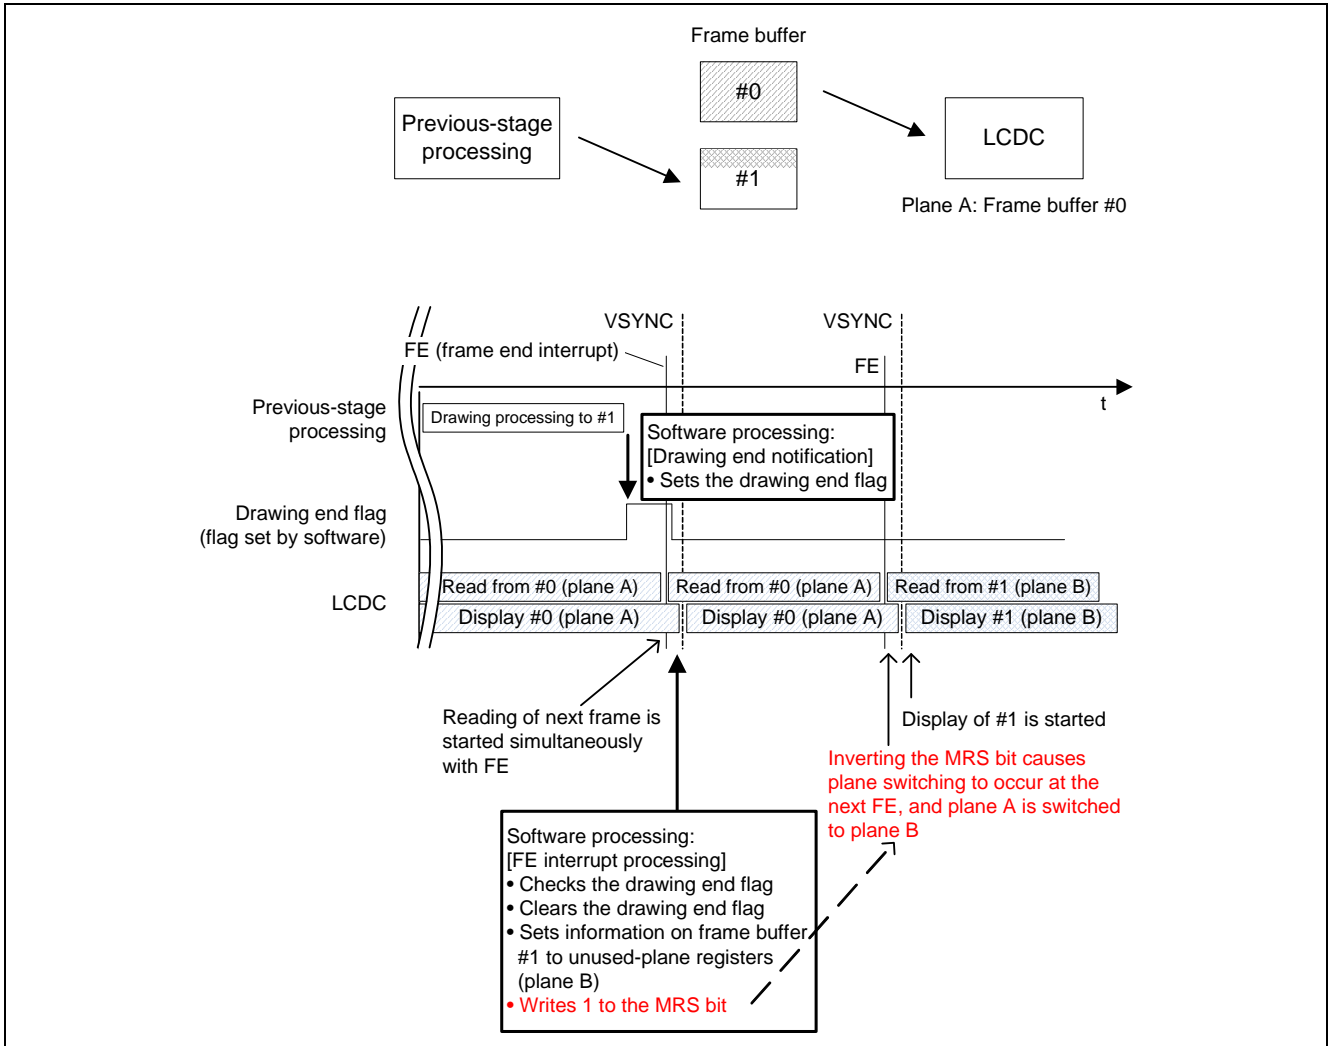

Figure 14 Timing of Software Switching Occurrence
- Software switching: When the MRS bit in the LCDC register side change control register (LDRCNTR) is inverted from 0 to 1 or from 1 to 0, planes A and B are switched at the same time the next frame display operation is finished (a frame end interrupt (FE) occurs simultaneously with the frame display operation end). When the MRS bit is changed from 0 to 1, plane A is switched to plane B, and when the MRS bit is changed from 1 to 0, plane B is switched to plane A. At this time, the MRC bit in LDRCNTR must be set to 0 to disable hardware switching. Figure 14 shows the timing chart for hardware switching. Shown here is an example of flag usage by software in order to achieve synchronization with the previous-stage processing.